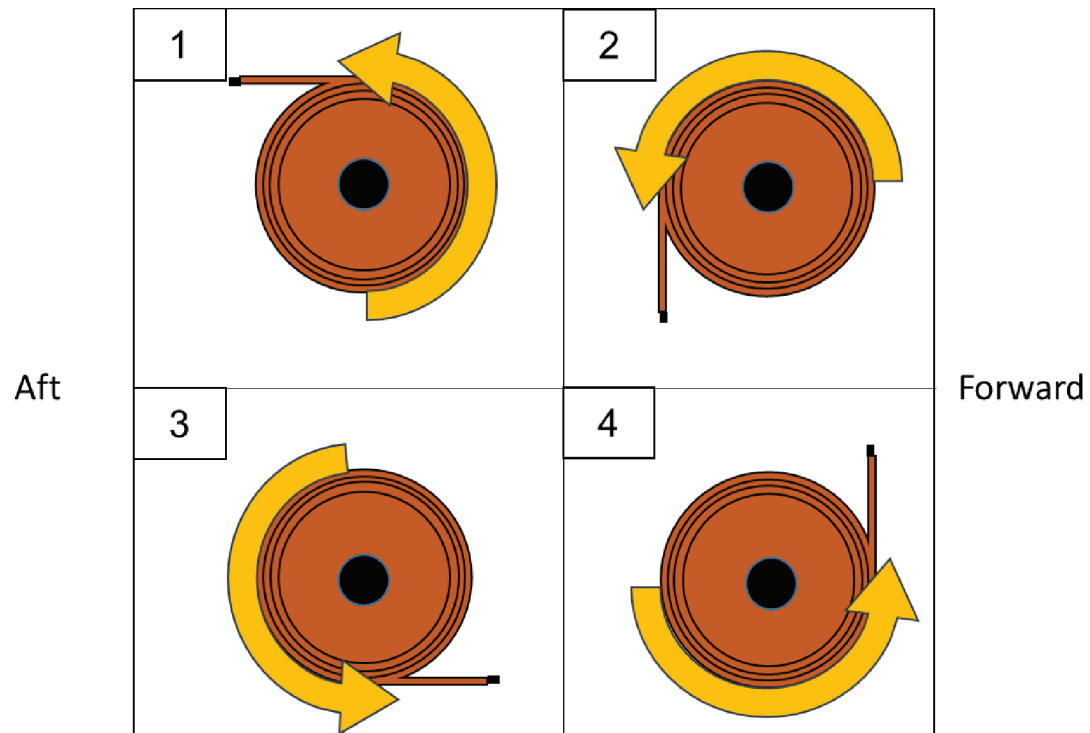

Fig.24
- B. Grip and rotate the roller and canvas towards you and towards crossbars (Fig.23A). You will begin to feel the tension of the roller after about 3 to 4 full rotations (Fig.24). Continue as needed until canvas is taut.